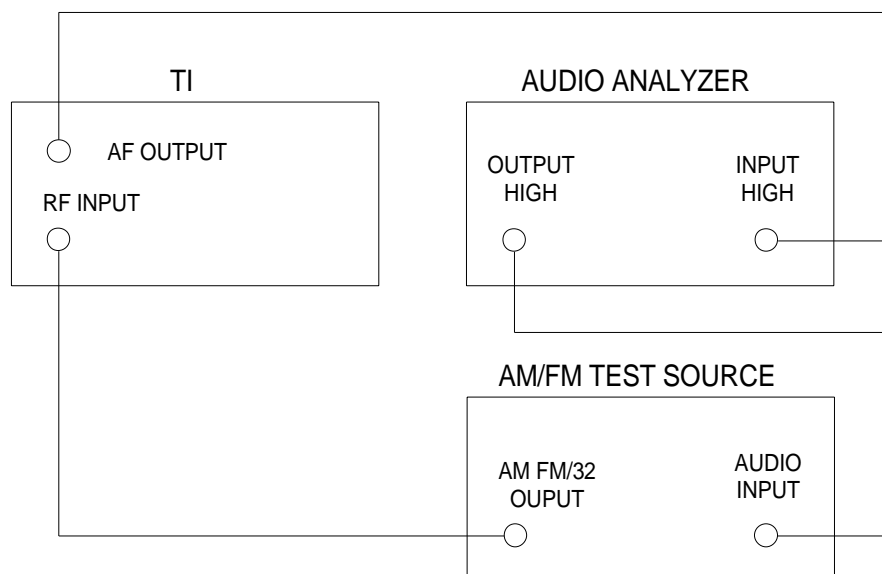

Figure 2.
4.4.17 Connect equipment as shown in Figure 2.
4.5.15 Connect equipment as shown in Figure 2 except connect the AM/FM Test Source FM OUTPUT to the TI RF INPUT.